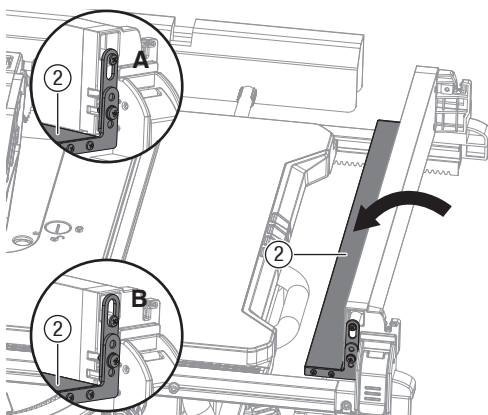

Fig. 18b
Narrow fence (Fig. 18b)
- When using the narrow fence (2) to support a workpiece that extends beyond the working table, rotate the narrow fence (2) as shown in (Fig. 18b) and secure it in the lowest position A for both the front and back slots.
- When using the narrow fence (2) to cut a narrow workpiece, rotate the narrow fence (2) as shown in (Fig. 18b) and secure it in the upper position B for both the front and back slots.
NOTE: If the narrow fence is not required, always place it in the position C as shown (Fig. 18b).